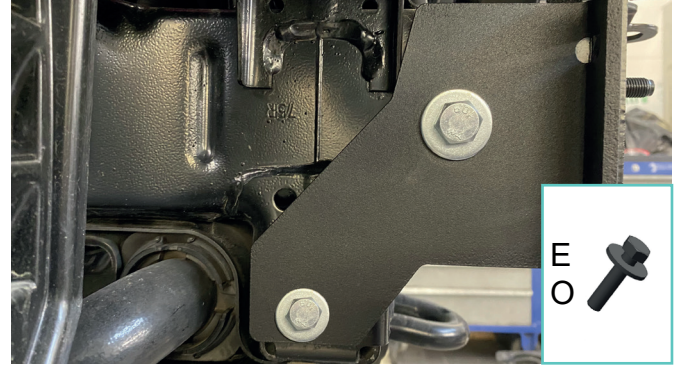

Fig.20
20. Fix support brackets to insert nuts M8 (item A) using bolts M8x30, washers 8 (item E, O) (fig.20).